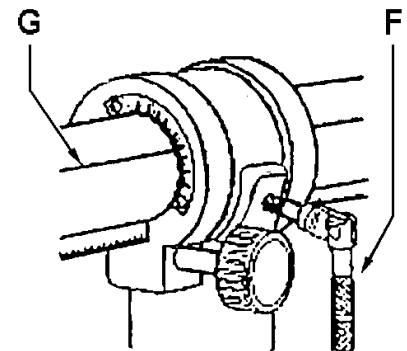

Fig 4
Loosen the clamping lever (F, Fig 4) and tilt according to the scale and reference line (G).